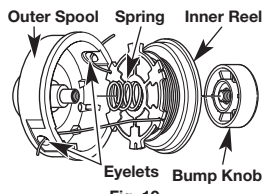

Fig. 19
- Pass the two line ends through the eyelets in the outer spool. Place the spring inside the inner reel. Insert the inner reel into the outer spool. Push the inner reel and outer spool together (Fig. 19).